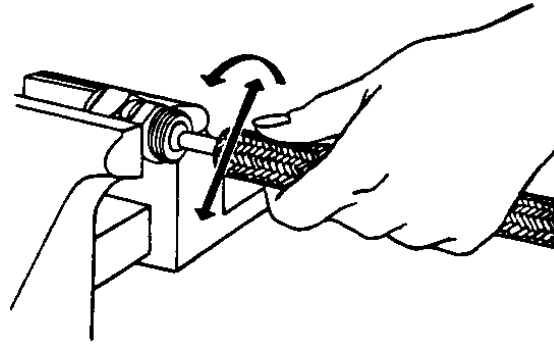

Figure 14: Size tube and flare braid
Step 3. Size tube and flare braid. Place nipple hex in vise. Push end of hose onto the nipple and work gently to aid in separating the wire braid from the tube. (See **Figure 14.**) Remove hose from nipple.